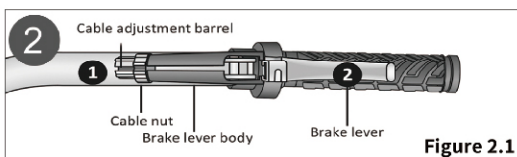
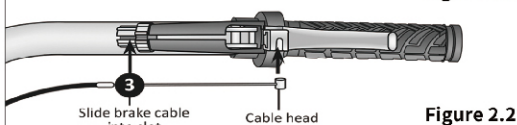

Figure 2.1
Figure 2.2
- ① Rotate the cable adjustment barrel and cable nut until the slots are aligned with the slot on the brake lever body. Figure 2.1
- ② Press the brake lever towards the grip.
- ③ Slide the brake cable through the slots and place the cable head into the brake lever. Figure 2.2